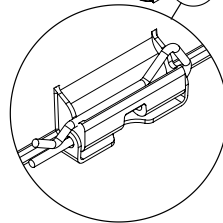

Figure 10
5. Close the **FANMATE®** and slide the other two (2) clips into place as shown in Figure 10. Rotate the **EZClip™** pins upward to lock into position on top of the mounting tabs.